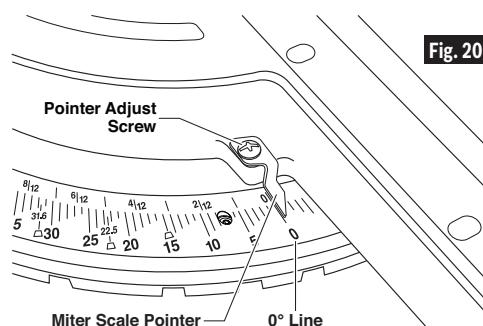

Fig. 20
- Loosen the pointer adjust screw that holds the miter scale pointer in place (see Figure 20).